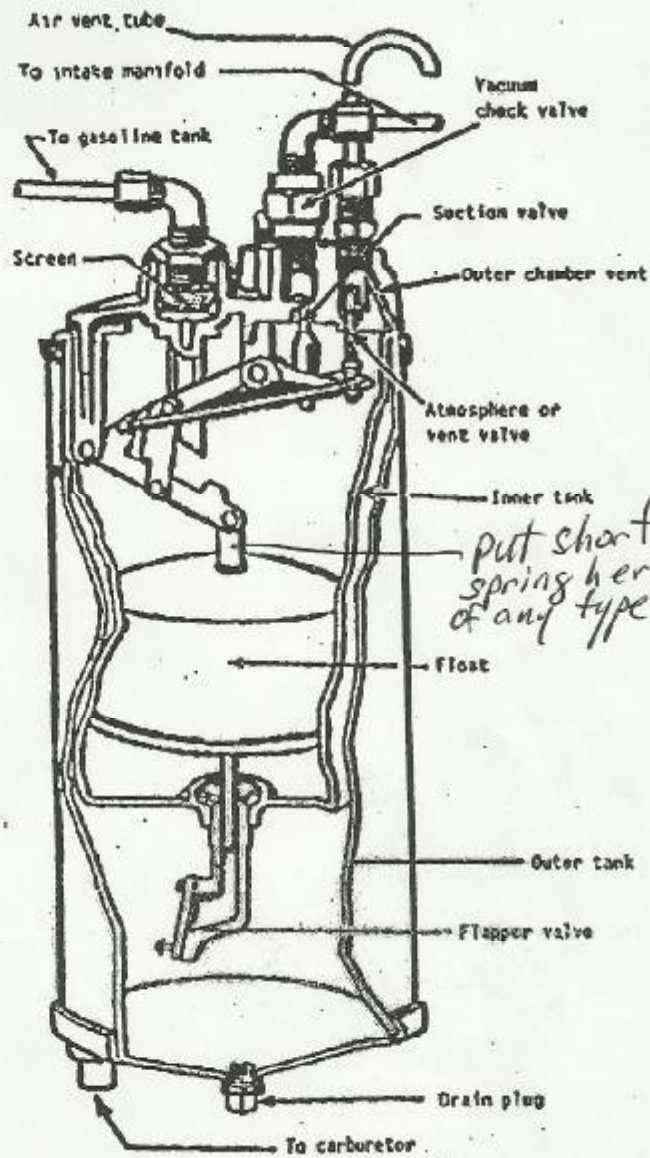

FIGURE 1
6) **ONLY IF NEEDED:** Coat the inner and outer surfaces of the inner tank and the inner surface of the outer tank (do not coat any gasket mating surfaces) with a product such as Eastwood Automotive's Gas Tank Sealer (part #10087Z). (Eastwood's USA phone number is 1-800-345-1178. If you are calling from outside the USA, their phone number is (610) 640-1450. Their FAX number is (610) 644-0560. Their website is located at:www.eastwood.com). Let sealer dry completely before proceeding with rebuild.
8) Clean the orifice of the vacuum check valve (see figure 1) with #18 **COPPER** wire. (This valve is brass. Copper wire is used, because copper is softer than brass and will not harm it). If someone has enlarged the orifice of this valve beyond .040" (#60 drill), solder the orifice closed with rosin core solder, and re-drill to .040.
13) With the pot metal head removed, lap the existing brass vacuum (suction) and vent valves (see figure 1) with Brasso or toothpaste. After lapping, clean the area well to flush out the Brasso or toothpaste. To re-seat a bakelite flapper valve (see figure 1), smear the seating surfaces with toothpaste, and carefully move the flapper valve back and forth to lap. After lapping, clean the area well to flush out the toothpaste. Then, test the valves to be sure they are sealing and opening properly. This is easily done with a parts washer that pumps cleaning liquid through a flexible arm nozzle.
14) Carefully clean the gasoline inlet fuel screen (see figure 1), if any. When replacing the hex fitting above this screen, thinly apply Permatex 2A to the mating surface. Tighten carefully to avoid cracking the potmetal head.
20) **CAUTION:** because of the design of vehicles that vacuum tanks were used on, the vacuum tanks can leak gasoline under certain circumstances under normal operation. (For example: if the vehicle is driven down a steep incline with the gas tank full, the level of gasoline in the tank may become even with or slightly elevated with respect to the vacuum tank head. This will allow an unchecked flow of gasoline into the vacuum tank---whether or not the engine is running). Under these circumstances, this excess gasoline will flow out of the vacuum tank air vent tube (see figure 1). Many vehicle makes had the vacuum tank mounted on the same side of the engine as the engine exhaust manifold.
THIS IS VERY DANGEROUS, BECAUSE GASOLINE FLOWING OUT OF THE VACUUM TANK AIR VENT TUBE (SEE FIGURE 1), BECAUSE OF THE CIRCUMSTANCES MENTIONED ABOVE, CAN IGNITE ON THE HOT MANIFOLD. IF YOU HAVE ONE OF THESE VACUUM TANKS MOUNTED ON THE SAME SIDE AS THE ENGINE EXHAUST MANIFOLD, MAKE ABSOLUTELY
CERTAIN THAT THE VACUUM TANK AIR VENT TUBE (SEE FIGURE 1) HAS BEEN MODIFIED BY A COMPETENT MECHANIC, SO THAT GASOLINE CANNOT FLOW OUT OF IT ONTO THE ENGINE EXHAUST MANIFOLD, OR ANY OTHER WARM OR HOT ENGINE OR NON-ENGINE PARTS. EVEN IF YOU HAVE A VACUUM TANK THAT IS NOT MOUNTED ON THE ENGINE EXHAUST MANIFOLD SIDE OF THE ENGINE, MAKE ABSOLUTELY CERTAIN THAT THE VACUUM TANK AIR VENT TUBE (SEE FIGURE 1) DOES NOT ALLOW GASOLINE TO FLOW ONTO ANY WARM OR HOT ENGINE OR NON-ENGINE PARTS. HAVE A COMPETENT MECHANIC MODIFY THE VACUUM TANK AIR VENT TUBE, IF NECESSARY. WHEN MODIFYING THIS TUBE, DO NOT MAKE ITS END LOWER THAN THE TOP OF THE VAC TANK, OR IT WILL SIPHON GASOLINE OUT OF THE VACUUM TANK.
- 2) Vent valve (see figure 1) not seating, due to corrosion/dirt, etc.
- 4) Fuel filter screen located in the gasoline inlet in the potmetal head is clogged (see figure 1).
- 9) Flapper valve (see figure 1) not seating due to dirt, improper lapping during rebuilding, etc.
- 10) Broken bakelite flapper valve (see figure 1).